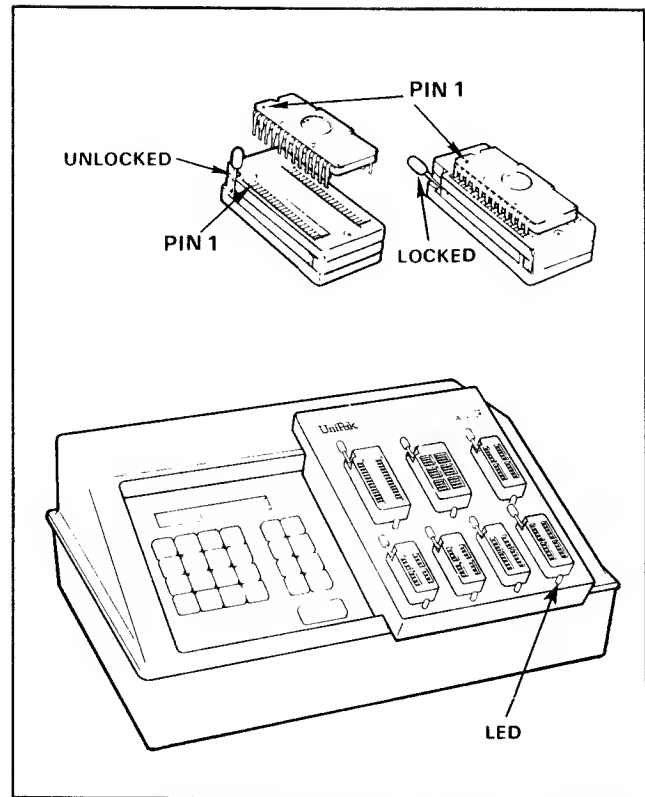

Figure 3-3. UniPak™ Sockets and Device Installation
2. Lift up the lever on the upper left side of the socket above the lighted LED (see figure 3-3). The lever will stay locked in the upright position.
3. Gently insert the device in the socket above the lighted LED. Make sure pin 1 of the device is aligned with pin 1 of the socket, as shown in figure 3-3.
2. Flip up the lever on the left side of the socket (see figure 3-3). The lever will lock in the upright position.